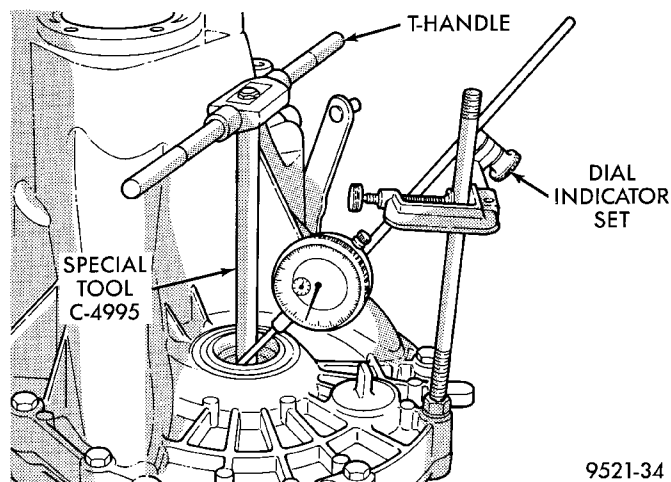

Fig. 141 Checking Differential Bearing End Play to Determine Shim Thickness
(1) Remove bearing cup and existing shim from clutch bellhousing case.
(2) Press in new bearing cup into bellhousing case (or use a cup that has been ground down on the outer edge for ease of measurement).
(3) Press in new bearing cup into gear case side.
(4) Oil differential bearings with Mopar® type M.S. 9417 Manual Transaxle Fluid. Install differential assembly in transaxle gear case. Install clutch bellhousing over gear case. Install and torque case bolts to 29 N·m (21 ft. lbs.).
(5) Position transaxle with bellhousing facing down on workbench with C-clamps. Position dial indicator.
(6) Apply a medium load to differential with Tool C-4995 and a T-handle, in the downward direction. Roll differential assembly back and forth a number of times. This will settle the bearings. Zero the dial indicator. To obtain end play readings, apply a medium load in an upward direction while rolling differential assembly back and forth (Fig. 141). Record end play.